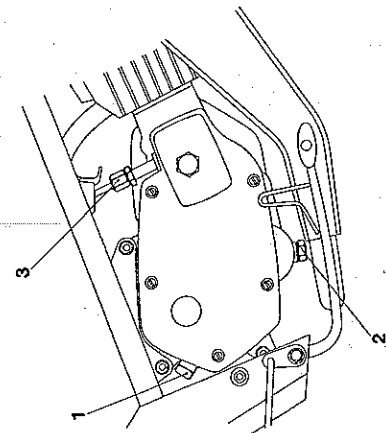
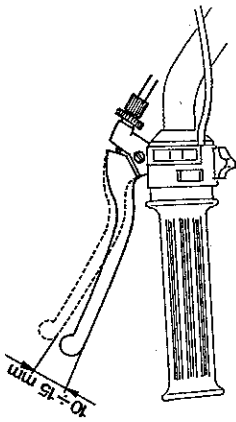

fig. 6
fig. 8
Always change oil when engine is warm. Extract dipstick, unscrew plug (pos. 2, fig. 6) and let oil drain. Screw on the plug and pour approx. 400 ccm of oil through the dipstick opening. Check oil level with dipstick (oil must reach only as far as the top notch) and must never be lower than the bottom notch on the dipstick.
Clutch control cable is adjustable with screw (pos. 3, fig. 6; pos. 21, fig. 2, 13). The clutch control cable is correctly adjusted, when the lever (pos. 19, fig. 2, 4) on the handlebar have 10—15 mm free play and there is a gap of approx. 3 mm between shackle and lever (fig. 8).